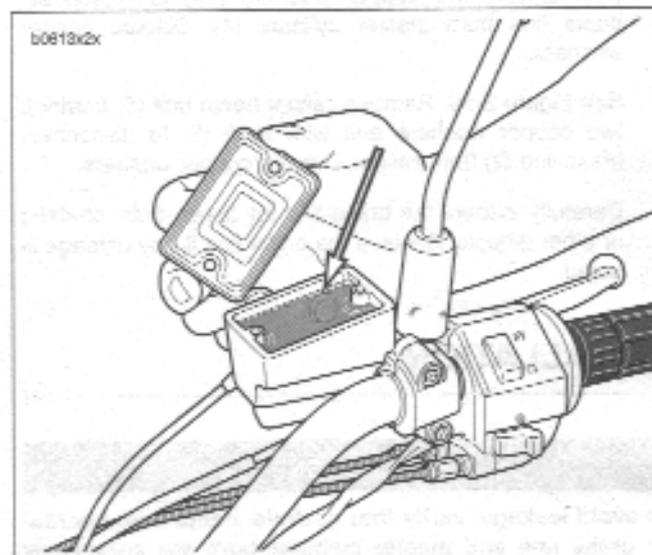

Figure 2-37. Brake Fluid Level (Standard Brake Reservoir Shown)
6. See Figure 2-37. With the master cylinder in a level position, add **D.O.T. 4 BRAKE FLUID**. Bring fluid level to within 1/8 in. (3.2 mm) of molded boss inside front master cylinder reservoir.